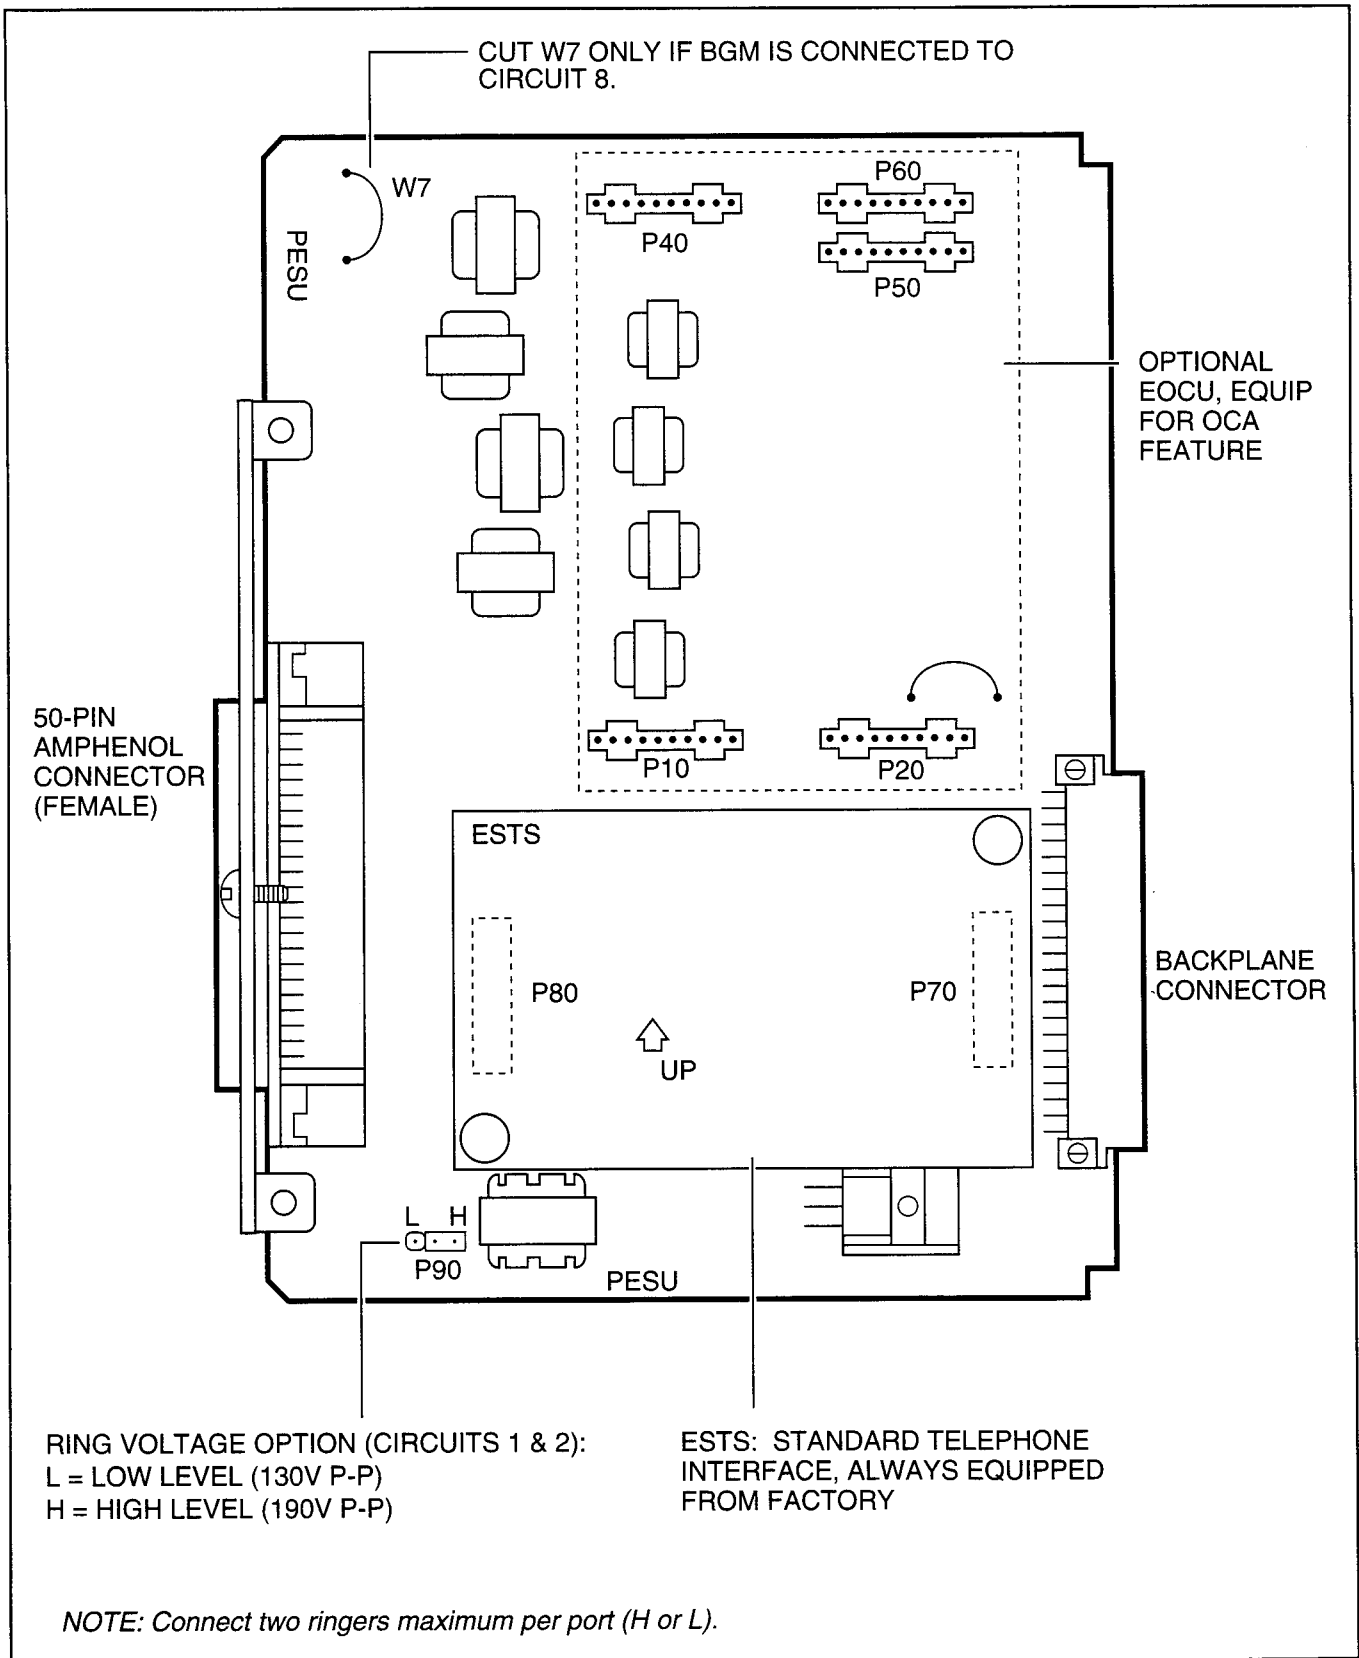

FIGURE 5-16
10.02 The PESU controls and interface connectors are shown in Figure 5-16 and described in Table 5-D.
PESU connectors P10, P20, P40, P50, and P60 are positioned to allow installation of the EOCU only in the proper position (refer to Figure 5-16).
- 2) Mate the EOCU connectors J10, J20, J40, J50, and J60 with the PESU connectors P10, P20, P40, P50, and P60 (refer to Figure 5-16).